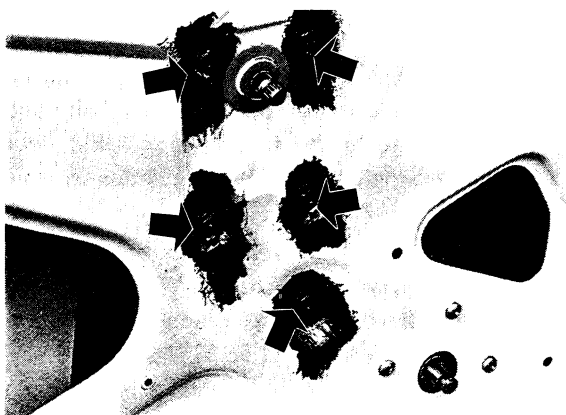

Fig. 8-26. Screws for winding mechanism
5. Release the five screws for the winding mechanism (Fig. 8-26) and take out the mechanism.